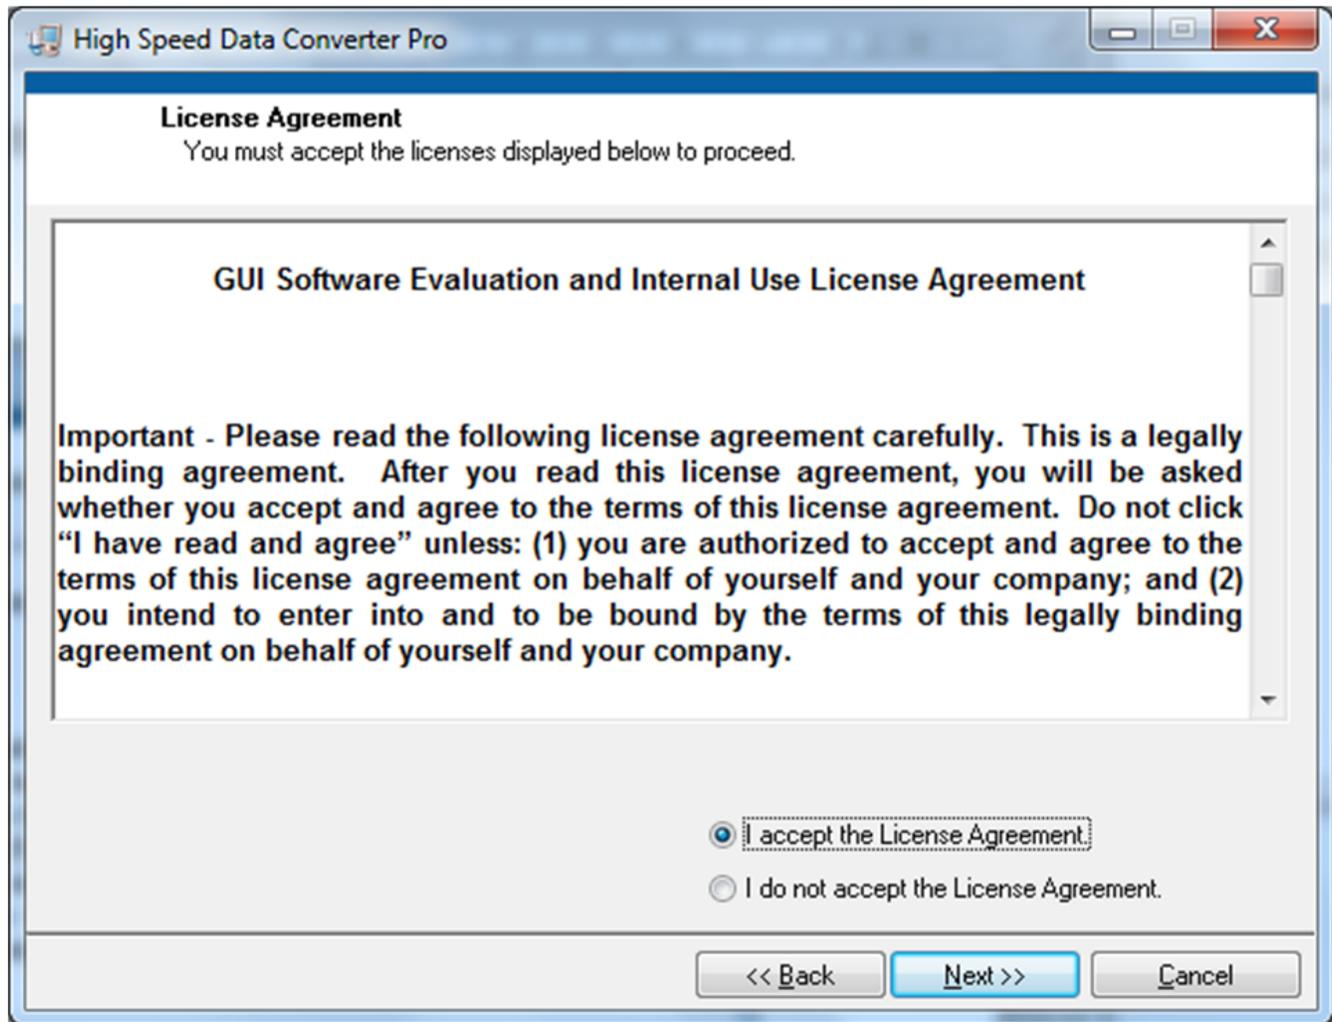

Figure 44. HSDCPro Install (TI License Agreement)
- Read the License Agreement from Texas Instruments and select *I accept the License Agreement* and press the *Next* button as shown in Figure 44.